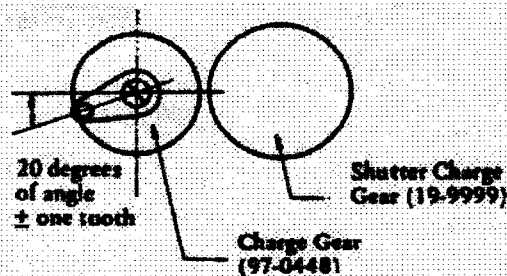

Fig. 8
- 2) Set Charge Gear (97-0448) at the position 20 degrees $\pm$ one tooth in Fig. 8.